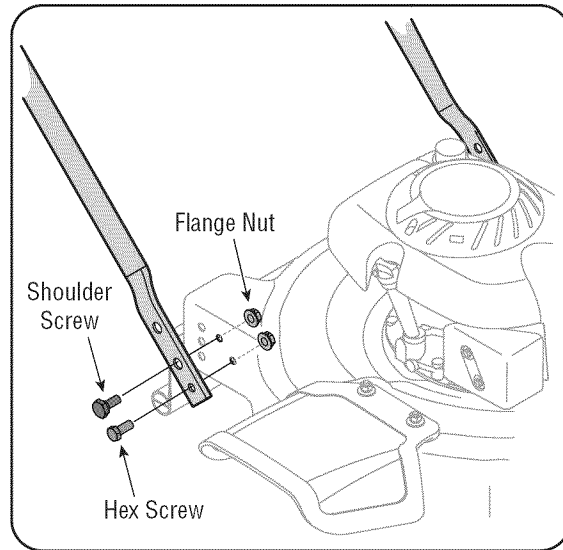

Figure 2
- Place the lower handle over the deck aligning the lower two holes in the handle with the corresponding holes on the deck. See Figure 2.
- Attach the lower handle to the deck with shoulder screws in the upper hole and hex screws in the lower hole as shown in Figure 2, secure both with hex flange locknuts. Tighten securely.